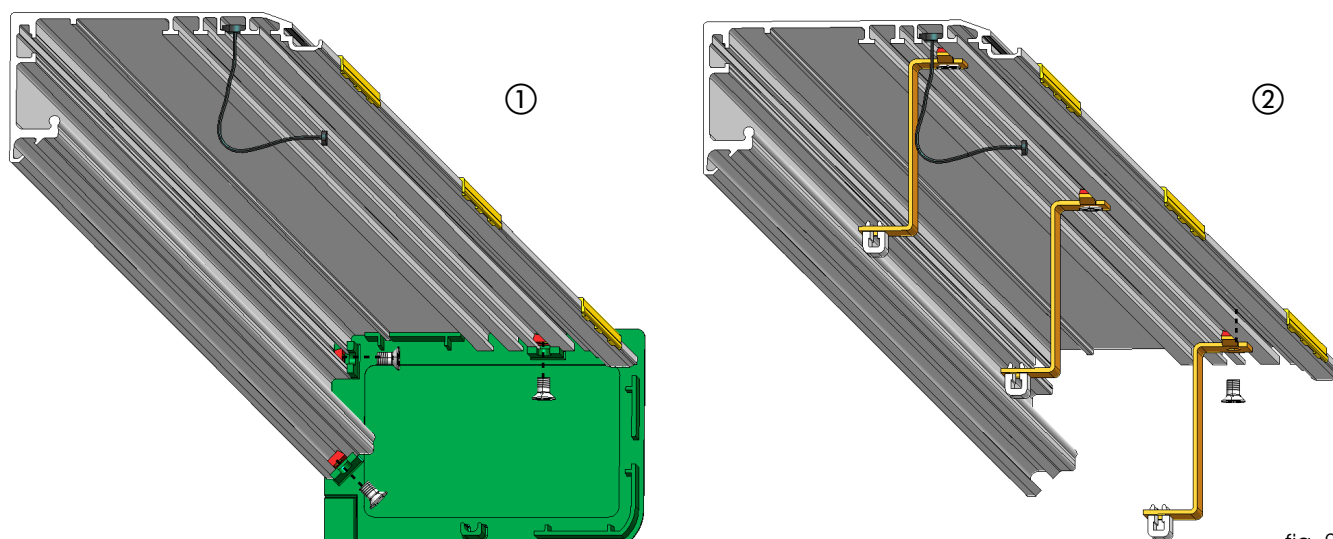

fig. 25
Fit the side panels as shown in Fig. 25. ref. ①. The figure shows the installation of the right hand side panel - proceed in the same way for the left panel.
If you do not wish to install the side panels, install 3 brackets to secure the housings - two at the sides and one in the centre (for profiles of over 3 meters) as shown in Fig. 25 ref. ②.